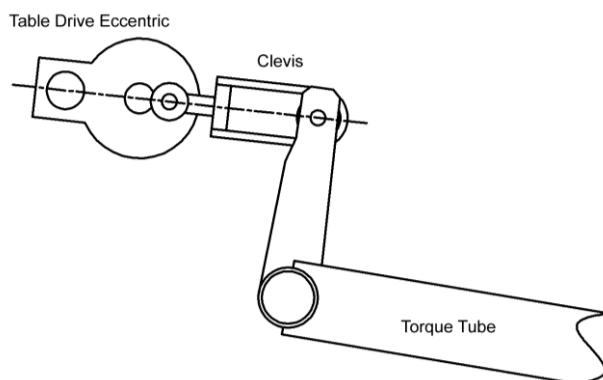

Figure 4.2-5
3. Use the Hand crank to align the Table Drive Shaft, Eccentric Stud, and Clevis Bolt to get the Table exactly at Bottom Dead Center (see Figure 4.2-5).